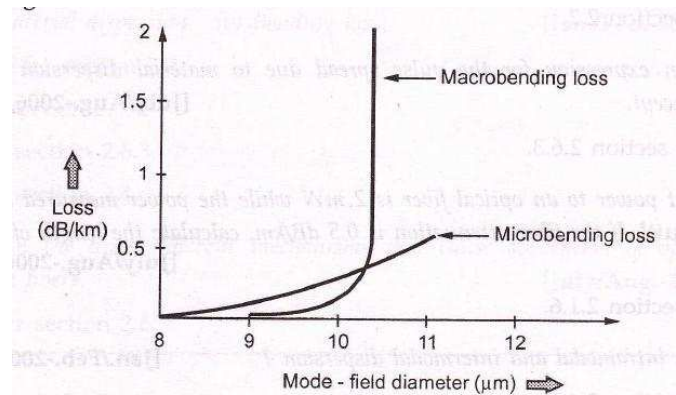

Fig. 2.9.7 Loss due to mode field diameter variation
- x The bending losses are function of mode-field diameter, smaller the mode-field diameter, the smaller the bending loss. Fig. 2.9.7 shows loss due to mode-field diameter.